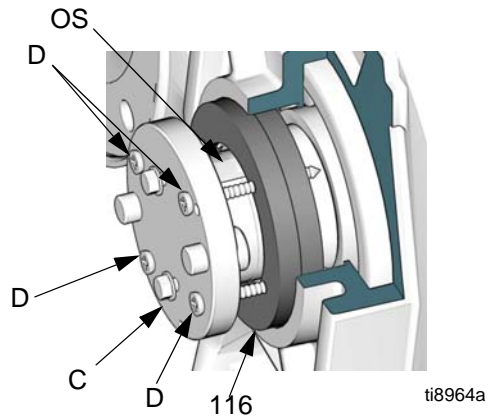

FIG. 8. Remove Output Shaft Seals
4. Remove the two output seals (116) as follows:
- a. See FIG. 8. Align the tool (C) with the output shaft (OS). Hold it in place.
- b. Drill 7/64 in. (2.8 mm) diameter pilot holes in the seals (116), using the holes for the sheet metal screws (D) as a template. Install the sheet metal screws (D) through the tool and into the seals (116).
c. Tighten screws (D) evenly to pull both seals out.